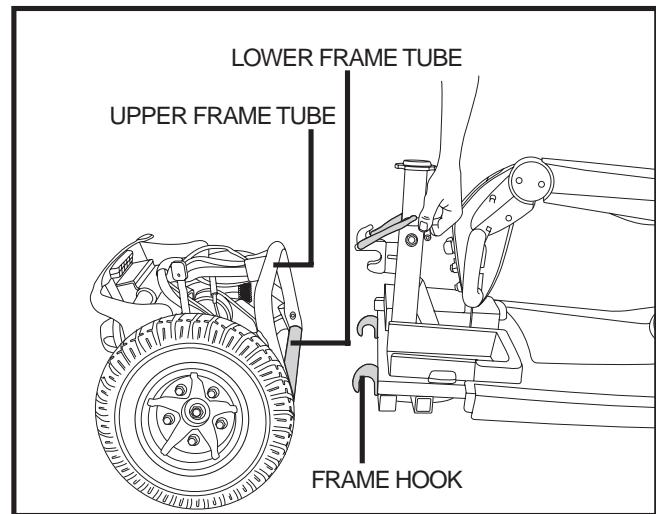

Figure 26. Frame Separation
3. Lift the front section up until the frame hooks of the front section separate from the rear section. See figure 26.
**NOTE: Stabilise the rear section with your free hand by holding onto the upper frame tube. See figure 26.**
4. Slowly separate the two sections. See figure 26.